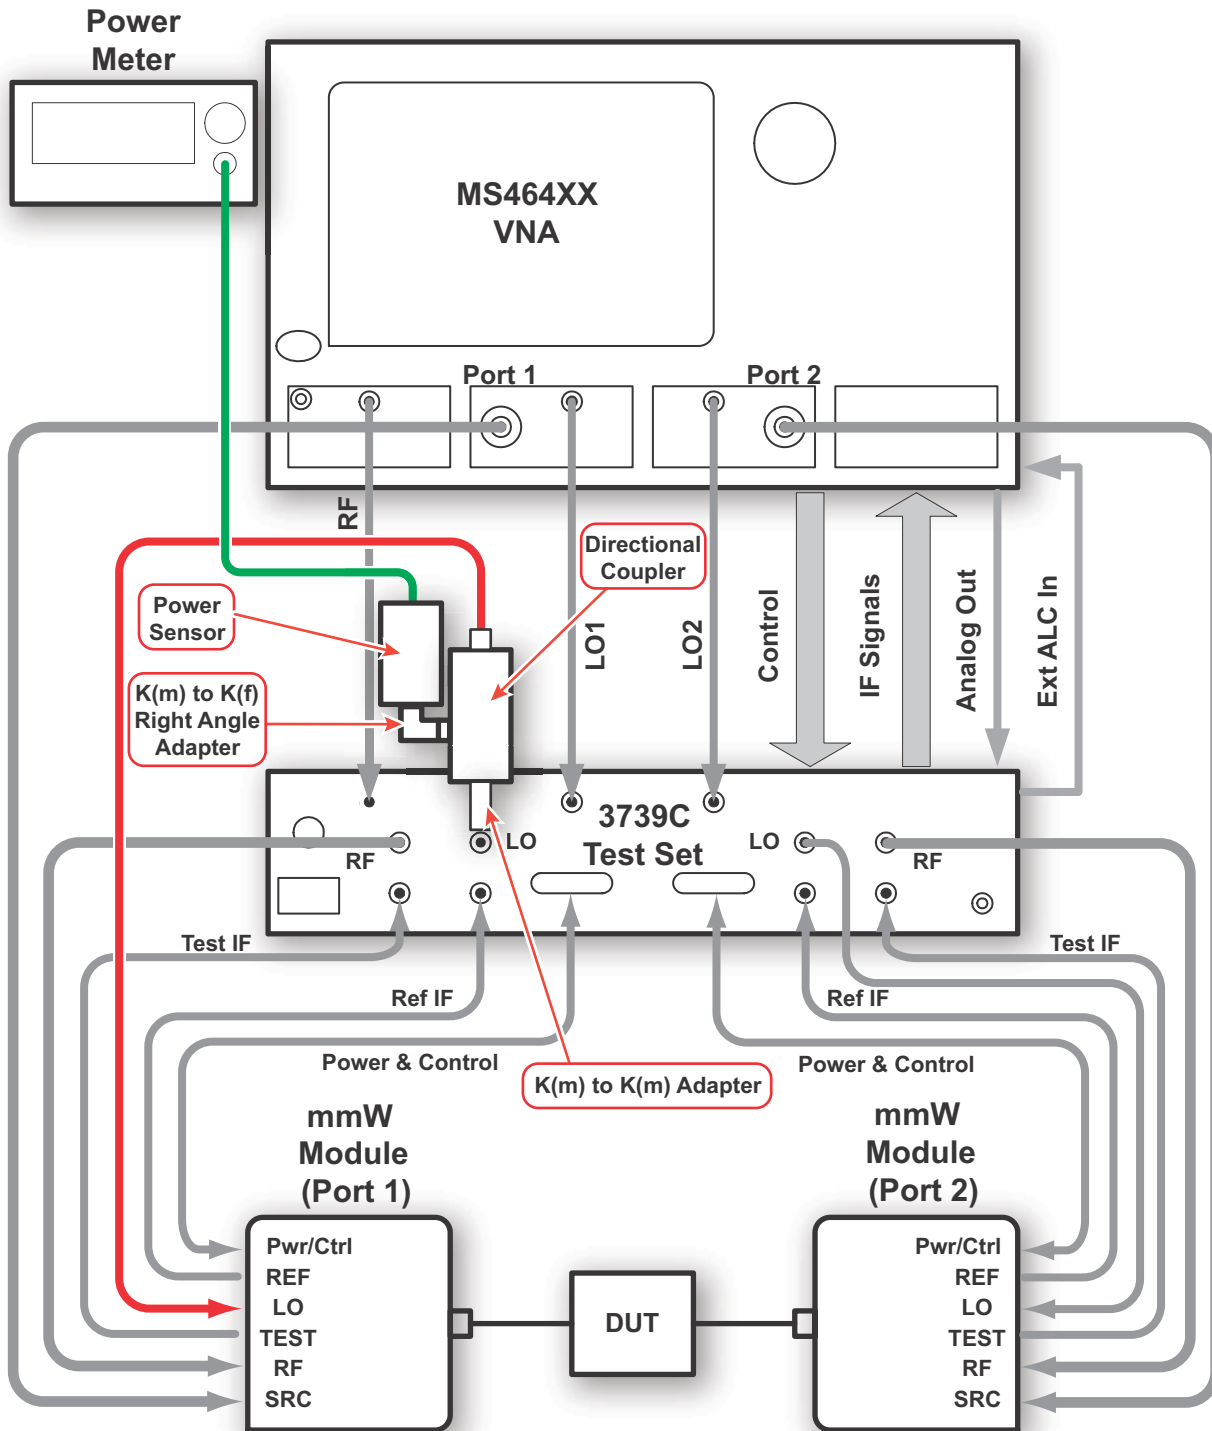

Figure 5-1. LO Level Cal Setup (Broadband Configuration shown)
6. Install the K(m) to K(m) Adapter to the RF Out port of the Directional Coupler. Refer to Figure 5-1.